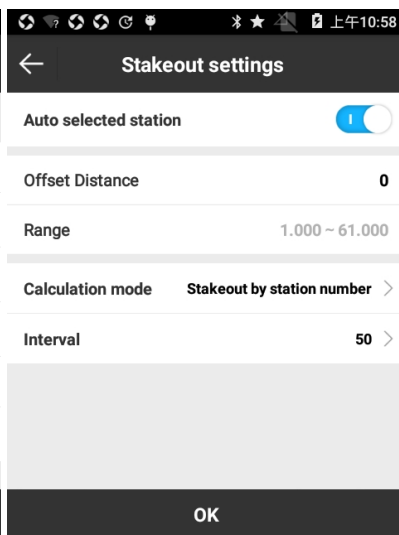
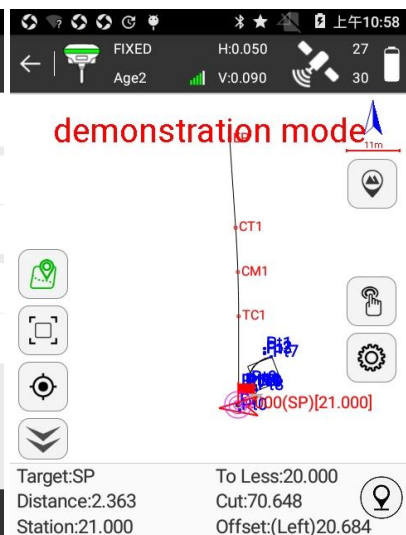

Figure 5.7-4
Figure 5.7-5
2. Select the stakeout road and press [OK] to enter road stakeout interface as shown in Figure 5.7-4. Mileage can be set as needed, that is, when entering stakeout interface, the position of stakeout point. Set stakeout interval, and then perform stake road by points. Press [OK] to enter road stakeout interface as shown in Figure 5.7.5. And according to arrow direction and the prompt of mileage and offset in the bottom status bar, stakeout roads in Road Library at stakeout interval by points. The adjacent stakeout points in the points library can be switched automatically by ↑ and ↓ keys. Press  , input mileage